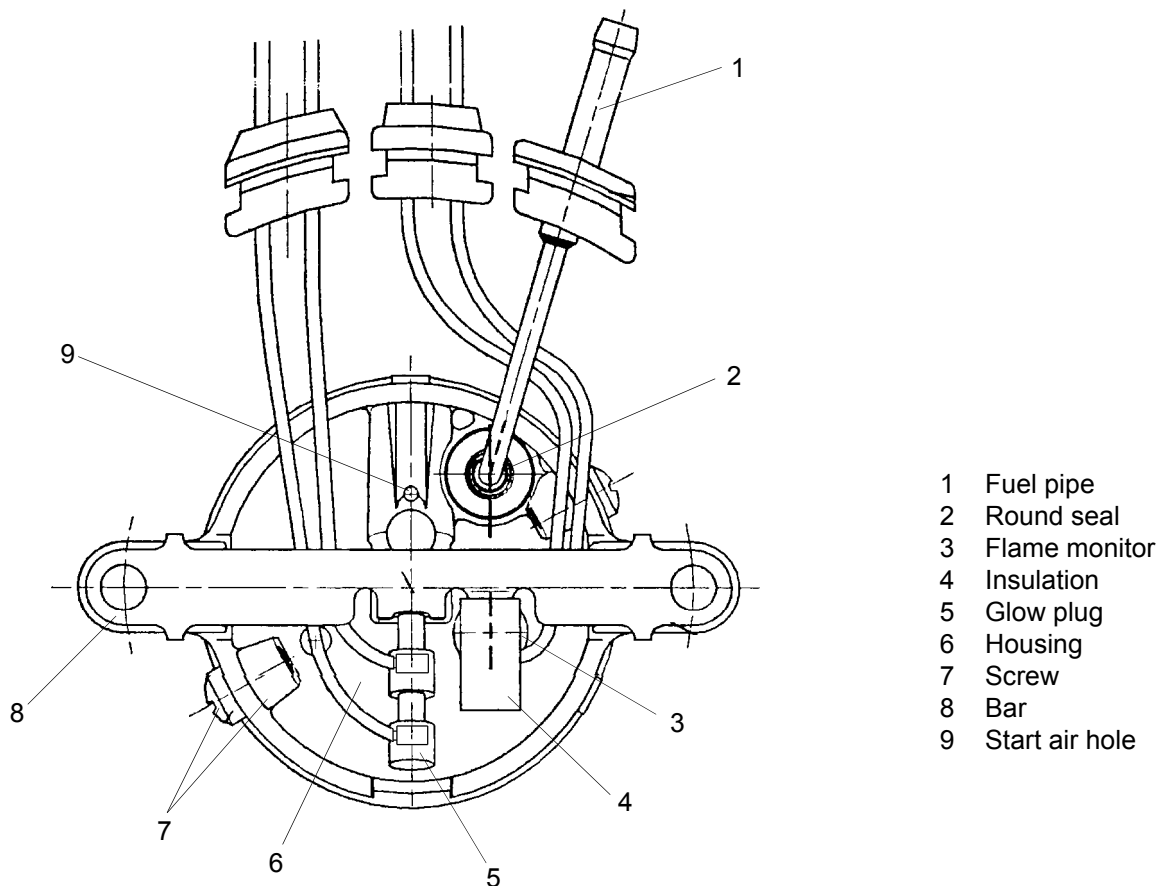

Fig. 503 Visual check, burner back wall
- The start air hole (Fig. 503) must be clear otherwise no start will occur.
- The cables of the glow plug and flame monitor must be routed as shown in Fig. 503.
- The round sealing ring (Fig. 503) must evenly surround the fuel pipe and must not leak.
- The insulation (Fig. 503) must not be missing.